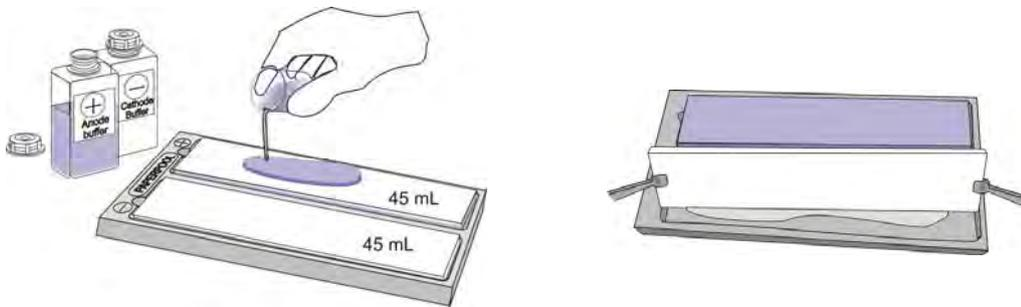

Fig. 5.1: Soaking electrode wicks in 45 ml electrode buffer. .
1. Apply 45 ml of each electrode buffer to the respective electrode wick in the compartments of the SERVA PaperPool (fig. 5.1), distribute the solution evenly with a roller, and soak for a minimum of 15 minutes.